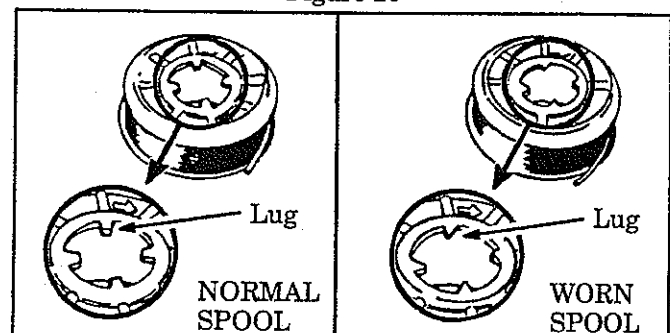

Figure 21
- a. Replace the spool when the square corners on the lugs are rounded off, reduced in size, or broken off. Figure 21.